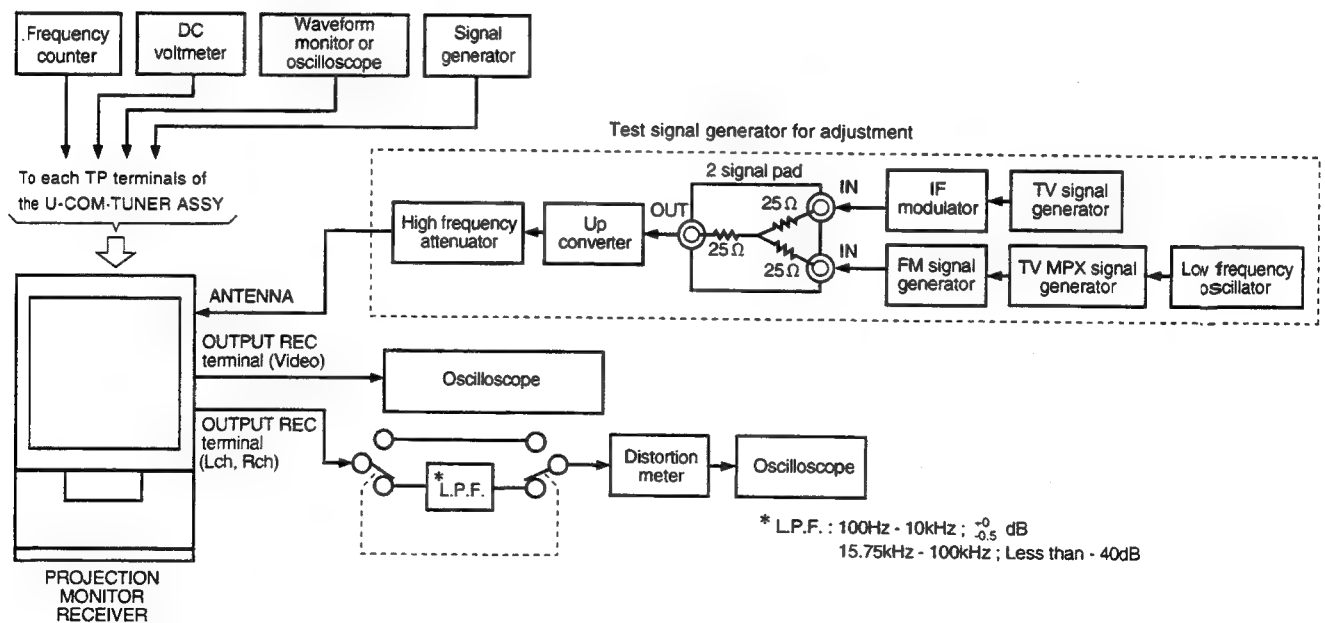

Fig. 9-18 Connection diagram when adjusting the tuner section
- Connection diagram is referred to Fig. 9-18.